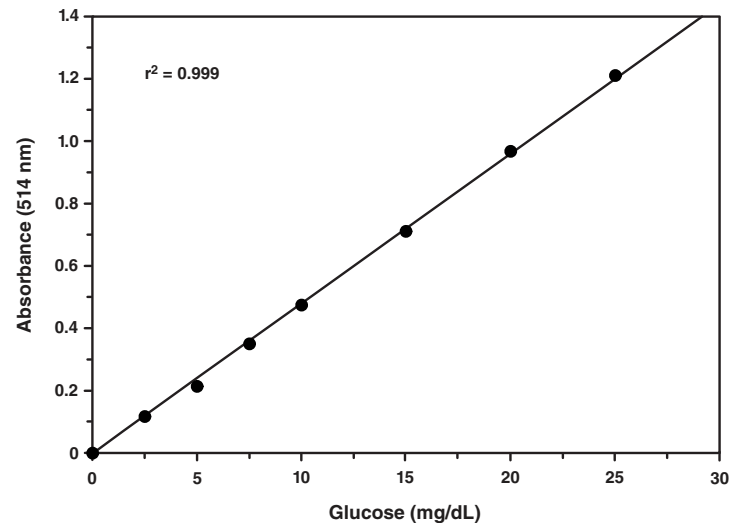

Figure 3. Glucose standard curve
4. Calculate the concentration of glucose for each sample from the standard curve. An example of the glucose standard curve is shown in Figure 3, see page 14.